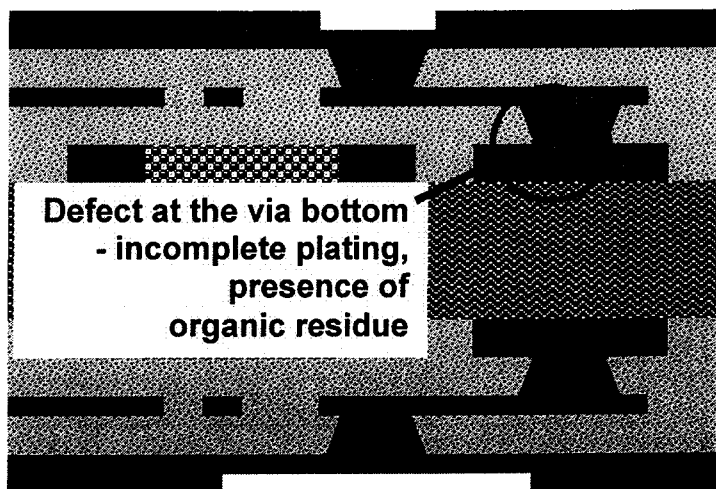

Figure 2
6. [a] Every single substrate material shipped out by the substrate manufacturer is electrically tested for any opens or shorts within the substrate. However, during the open/short test done after the substrate material is fully assembled (with die, underfill etc), a high resistance readout was detected. Upon further investigation and failure analysis, the following defect was observed in one of the via within the substrate (refer to Figure 2)